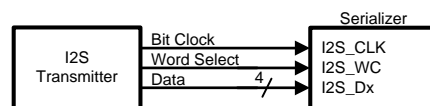
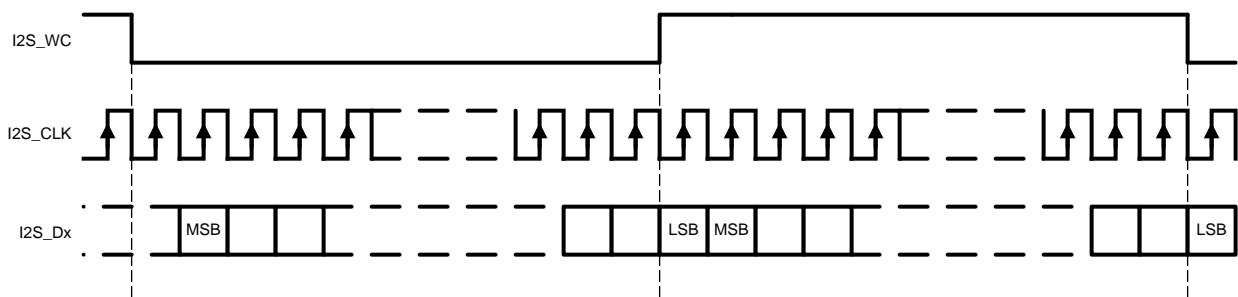

Figure 15. I2S Connection Diagram
Figure 16. I2S Frame Timing Diagram
The DS90UB949-Q1 serializer features six I2S input pins that, when paired with a compatible deserializer, supports 7.1 High-Definition (HD) Surround Sound audio applications. The bit clock (I2S_CLK) supports frequencies between 1MHz and the lesser of IN_CLK/2 or 13MHz. Four I2S data inputs transport two channels of I2S-formatted digital audio each, with each channel delineated by the word select (I2S_WC) input. Refer to Figure 15 and Figure 16 for I2S connection diagram and timing information.